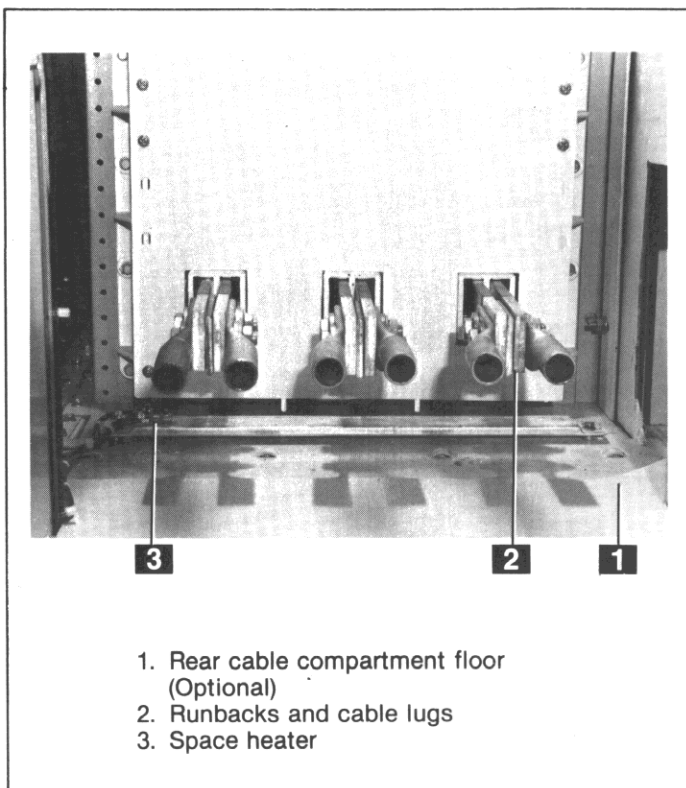

Fig. 3-33. Location of space heater
Space heaters (3), Fig. 3-33, are provided as standard equipment. They provide protection against condensation of moisture that could, in combination with air-borne contaminants, deteriorate insulation or cause corrosion. One 250-watt, 115-volt, ac heater is located on the floor of the bus compartment of each outdoor switchgear section. The heaters should be energized at all times to prevent condensation within the switchgear.